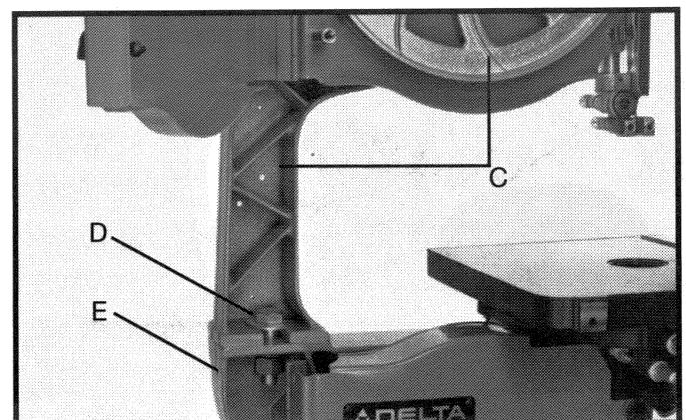

Fig. 3
2. Hold the upper arm assembly (C) Fig. 3, and remove the screw, nut, flat washer, and lockwasher(D). Carefully lift off the upper arm assembly (C) from the base (E). **NOTE:** Flat washer, lockwasher, and nut will be used to fasten the height attachment.